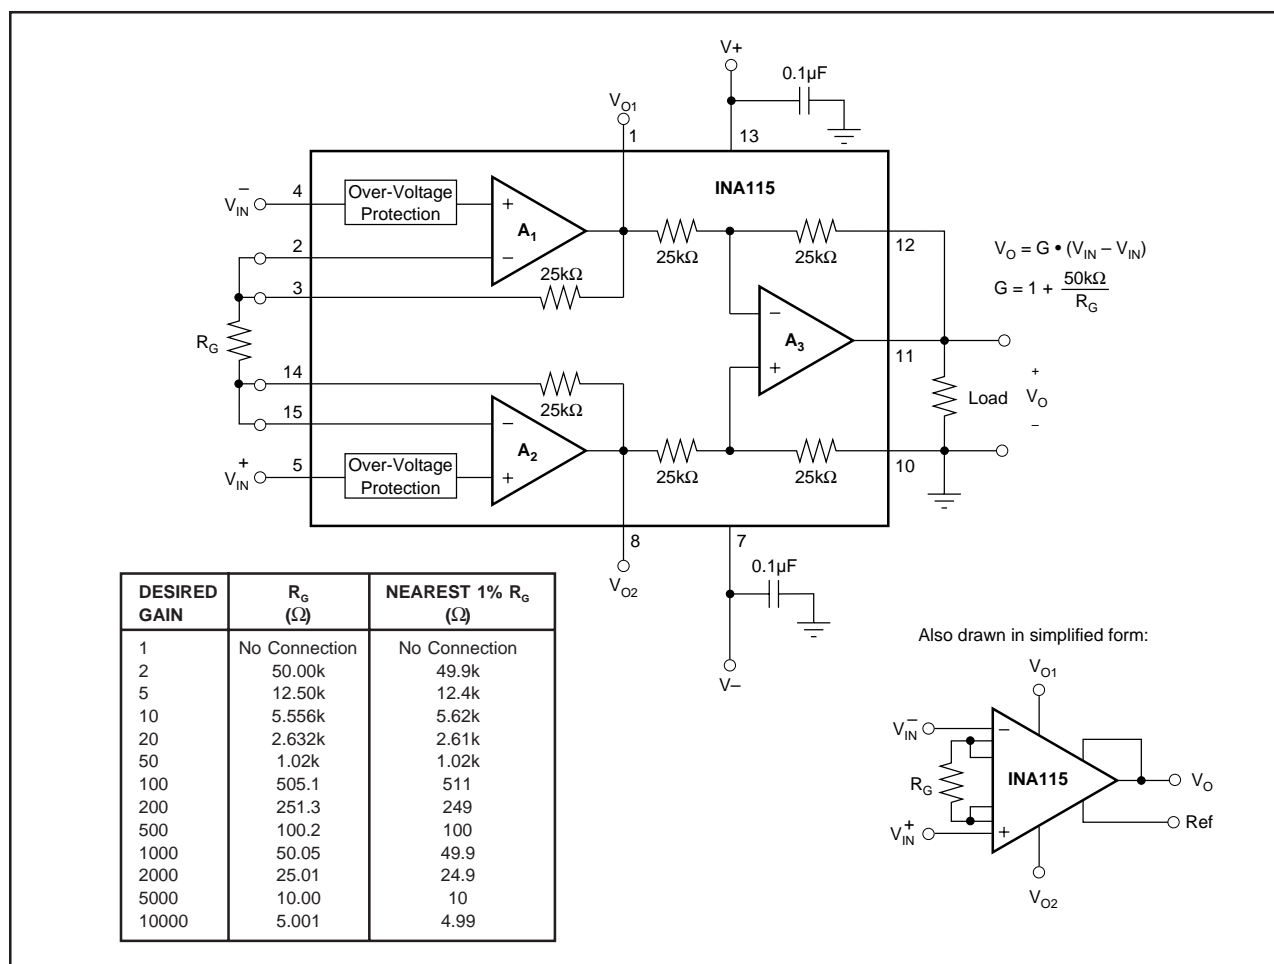

FIGURE 1. Basic Connections.
Figure 1 shows the basic connections required for operation of the INA115. Applications with noisy or high impedance power supplies may require decoupling capacitors close to the device pins as shown.
Commonly used gains and resistor values are shown in Figure 1.
The stability and temperature drift of the external gain setting resistor,  $R_G$ , also affects gain.  $R_G$ 's contribution to gain error and drift can be directly inferred from the gain equation (1). Low resistor values required for high gain can make wiring resistance important. The "force and sense" type connections illustrated in Figure 1 help reduce the effect of interconnection resistance.